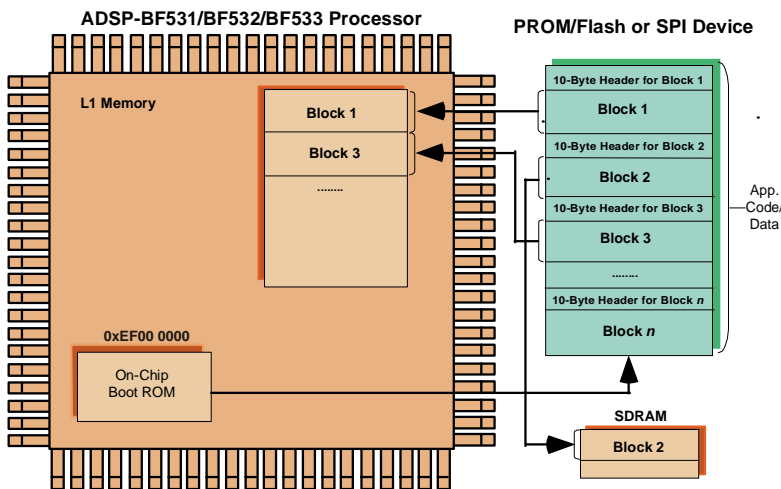

Figure 2-9. ADSP-BF531/BF532/BF533 Processors: Booting Sequence
3. Eventually, if bit 4 of the `SYSCR` register is not set, the on-chip boot ROM performs the full boot sequence (Figure 2-9).
The loader converts the application code (.DXE) into the loadable file by parsing the code and creating a file that consists of different blocks. Each block is encapsulated within a 10-byte header which is illustrated in Figure 2-9 and detailed in the following section. These headers, in turn, are read and parsed by the on-chip boot ROM during booting. The 10-byte header provides all the information the on-chip boot ROM requires: where to boot the block to, how many bytes to boot in, and what to do with the block.